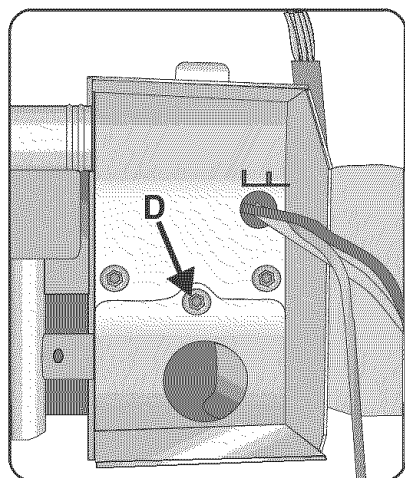

Figure 14
- 2) Remove the strain relief plate by removing the screw at the back of the junction box, as shown in Figure 14, letter D and sliding the strain relief plate out.